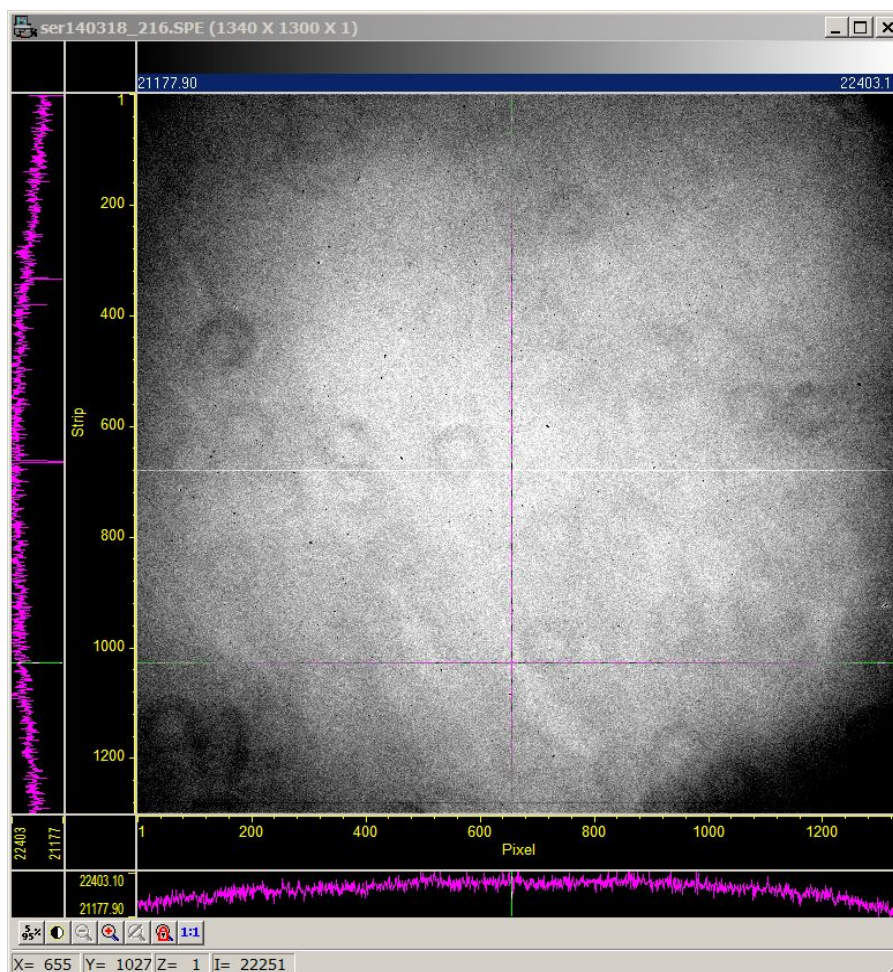

Figure 40
- Rotate the Dome (closed) to *position 51* (remember to stop the sidereal tracking when the Telescope is pointed). In this way we create a uniform screen in front of the mirror's Telescope and the resultant FF will have no light intensity gradient (any FF acquired with BFOSC is liable to a “vignetting” effect, so it will not be really uniform, especially in the frame's corners (*Figure 40*))